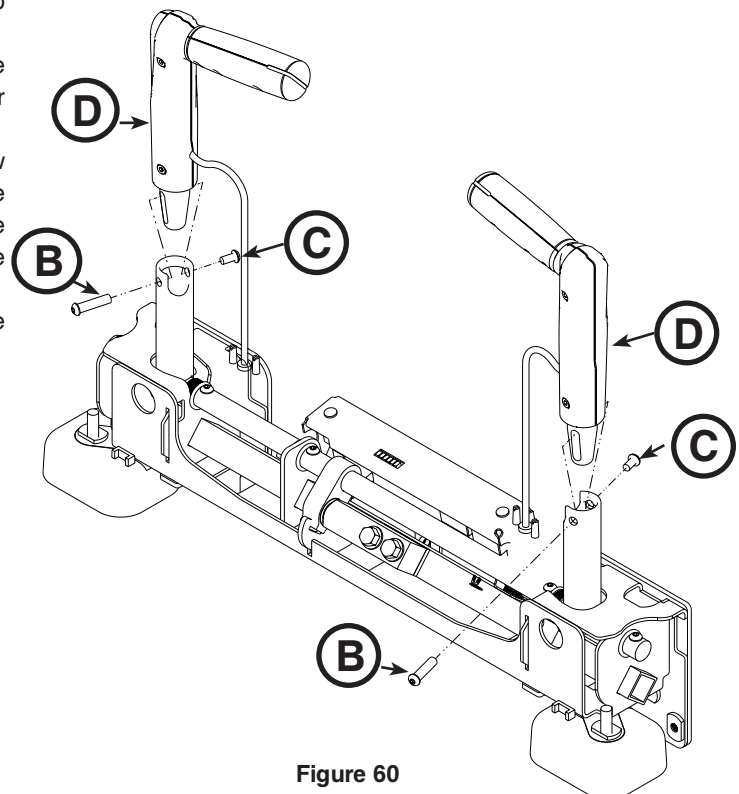

Figure 60
3. Using two 5/32" hex wrenches, remove the handle pivot bolts (B) and button head cap screws (C) that hold the Zoom® drive handles (D) to the handle pivot sockets (Figure 60).
4. Lift straight up on the top display cover (E) while pulling the excess handle switch cable back down through the top display cover. Stop pulling at the top of the handle pivot sockets.